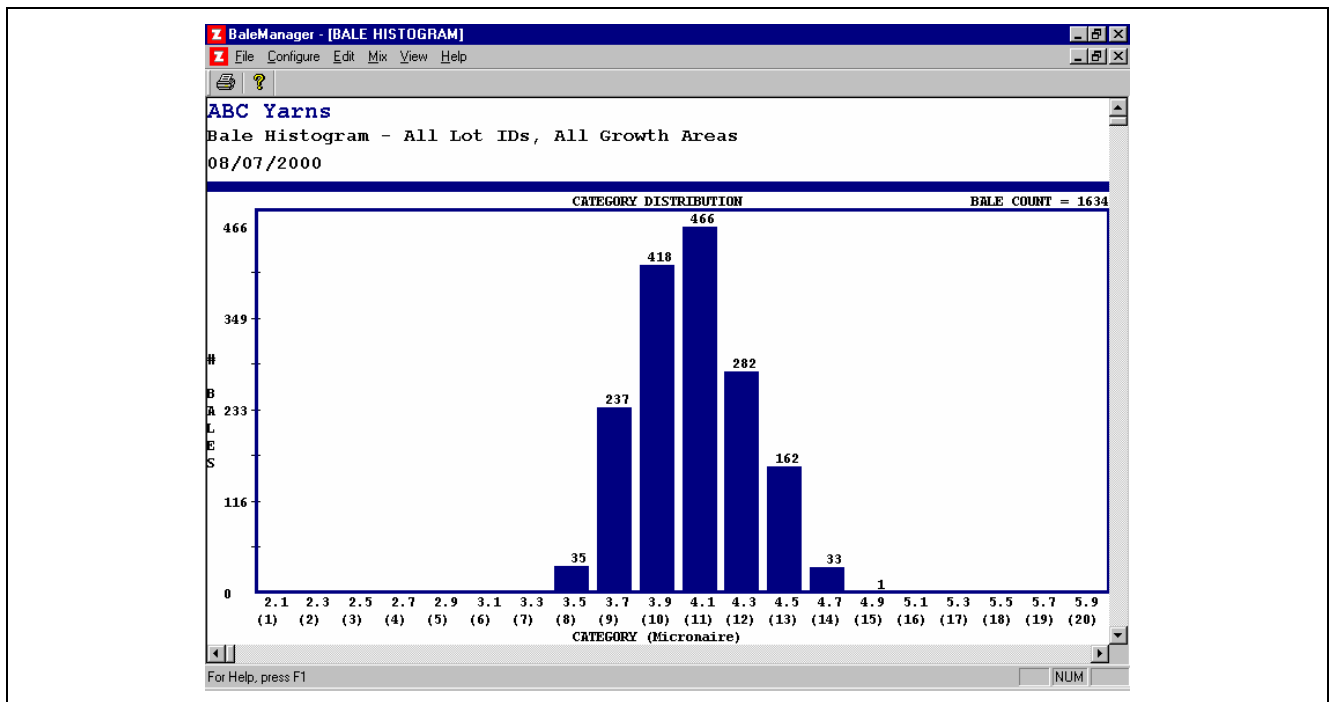

Fig. 6-38 Micronaire Histogram, All Lot Ids; Initial Category Definition
11.4 Follow the steps under “View Data” (11.1, 11.2, and 11.3) but instead of SCI select Micronaire to view, and then print the Micronaire Histogram (Fig. 6-38), which uses the temporary Initial 2.2-0.2-20 Category Definition of Table 6-3.